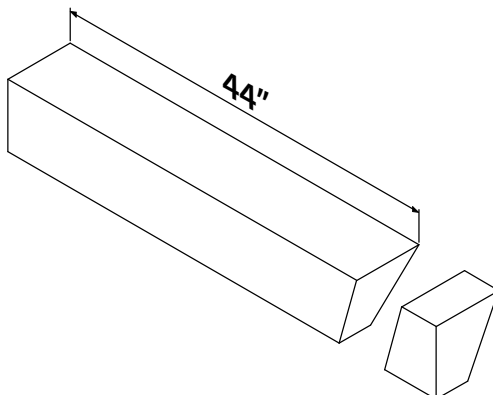

FIGURE 32
**Step 8:** Bevel cut one end each of two M69 damper supports to 38" with the long point of the bevel at the bottom of the damper support. The bevel angle must be at the same angle – in this case, 15 degrees – to match with the bevel angle of the other damper supports already cut in Step 7 (Figure 32).